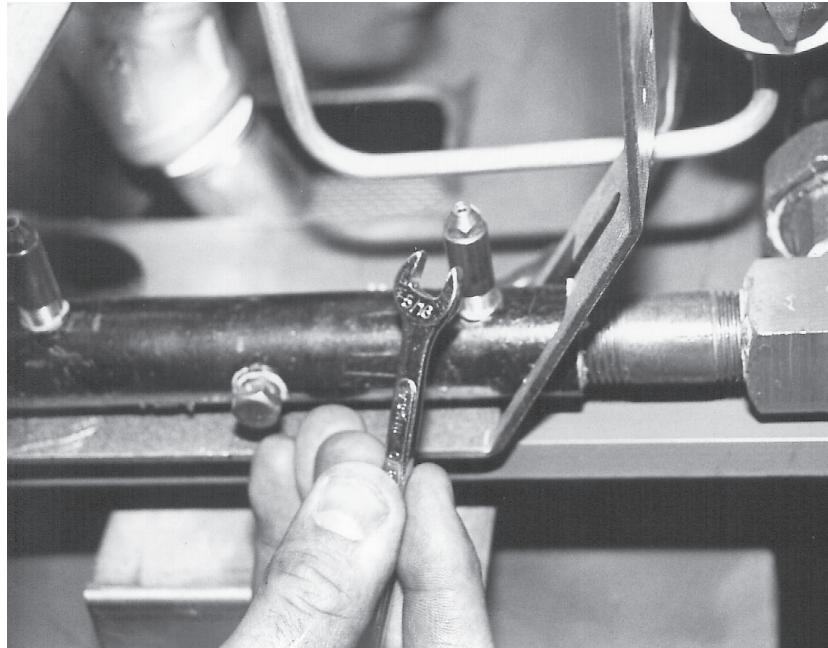

Fig. 35
2. With a  $\frac{5}{16}$ " wrench, remove the pilot orifice. (Fig. 35)